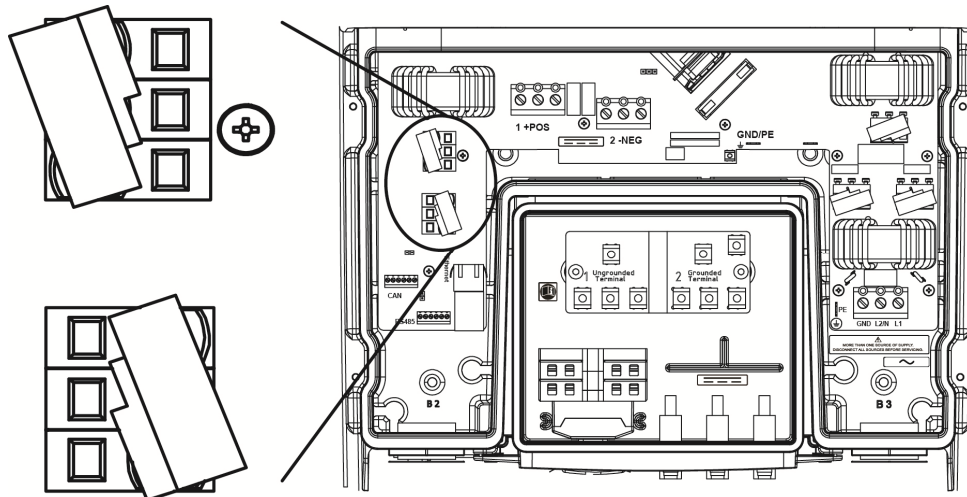

Figure 8.2.5: Varistors on the DC side
- Comply with *Figure 8.2.5* and *8.2.6* to get the position of the varistors correct.